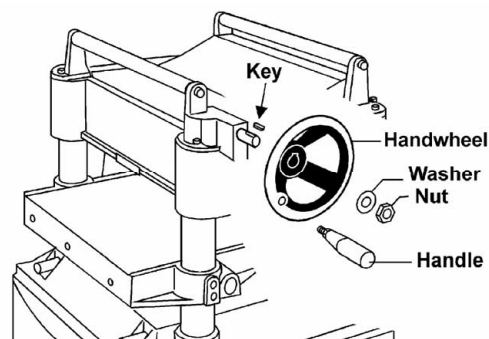

Figure 5
1. Remove the nut and washer from the gearbox shaft, and place the handwheel onto the shaft (Fig. 5), making sure it is oriented so the handwheel slips over the key.